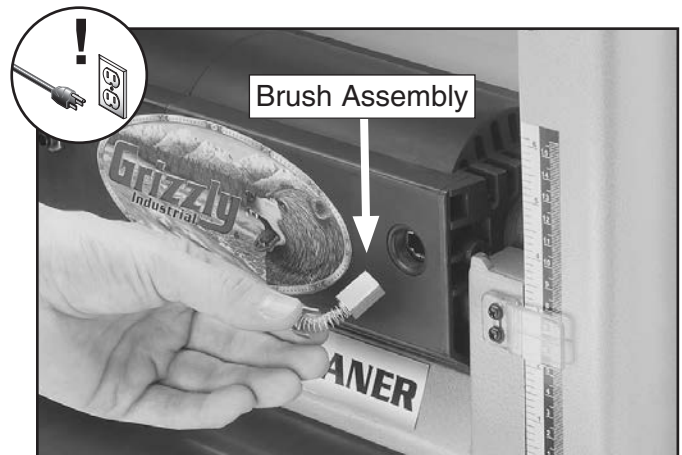

Figure 26. Removing the front motor brush assembly.
2. Unscrew the plastic cover, and remove the front motor brush assembly, as shown in **Figure 26**.